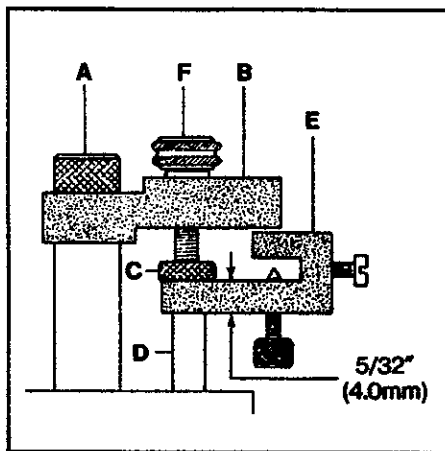

FIG. 8
Turn the handwheel until the needle bar is at its lowest point. Loosen presser bar regulating screw (A, Fig. 8) and insert needle bar setting block (B) under the head of the screw (A) with stop screw (C) above needle bar (D). Tighten screw (A).
The long portion of the looper clamp and height gauge (E, Fig. 8) laid on its side is the $5/32''$ (4.0mm) gauge used to set the distance between stop screw (C) and the top of the needle bar (D) at its lowest position. Tighten nut (F) to clamp stop screw (C) into place.